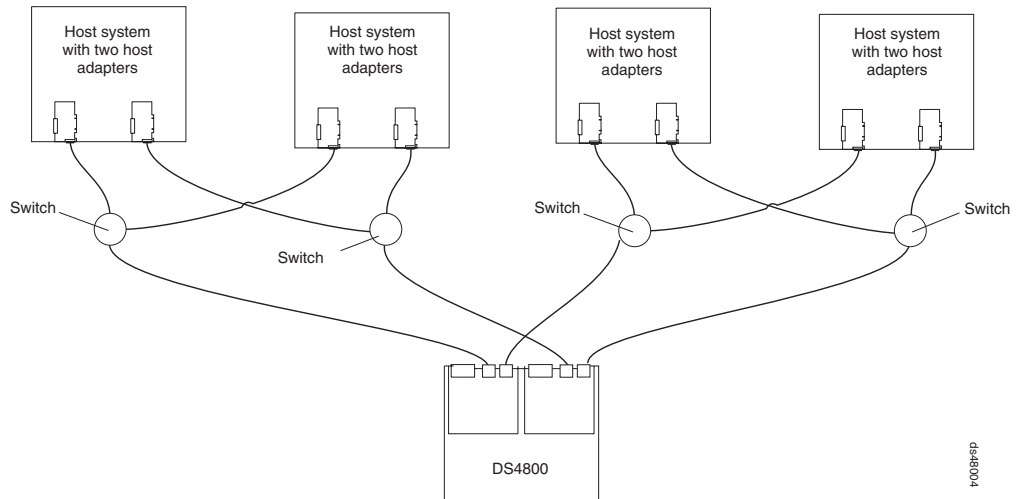

Figure 70. Example of a two-cluster configuration
- Two clusters, as shown in Figure 70 on page 98
Figure 70 on page 98 gives an example of one DS4800 and four host systems configured into two clusters; each cluster comprised of two host systems and two fibre channel switches.